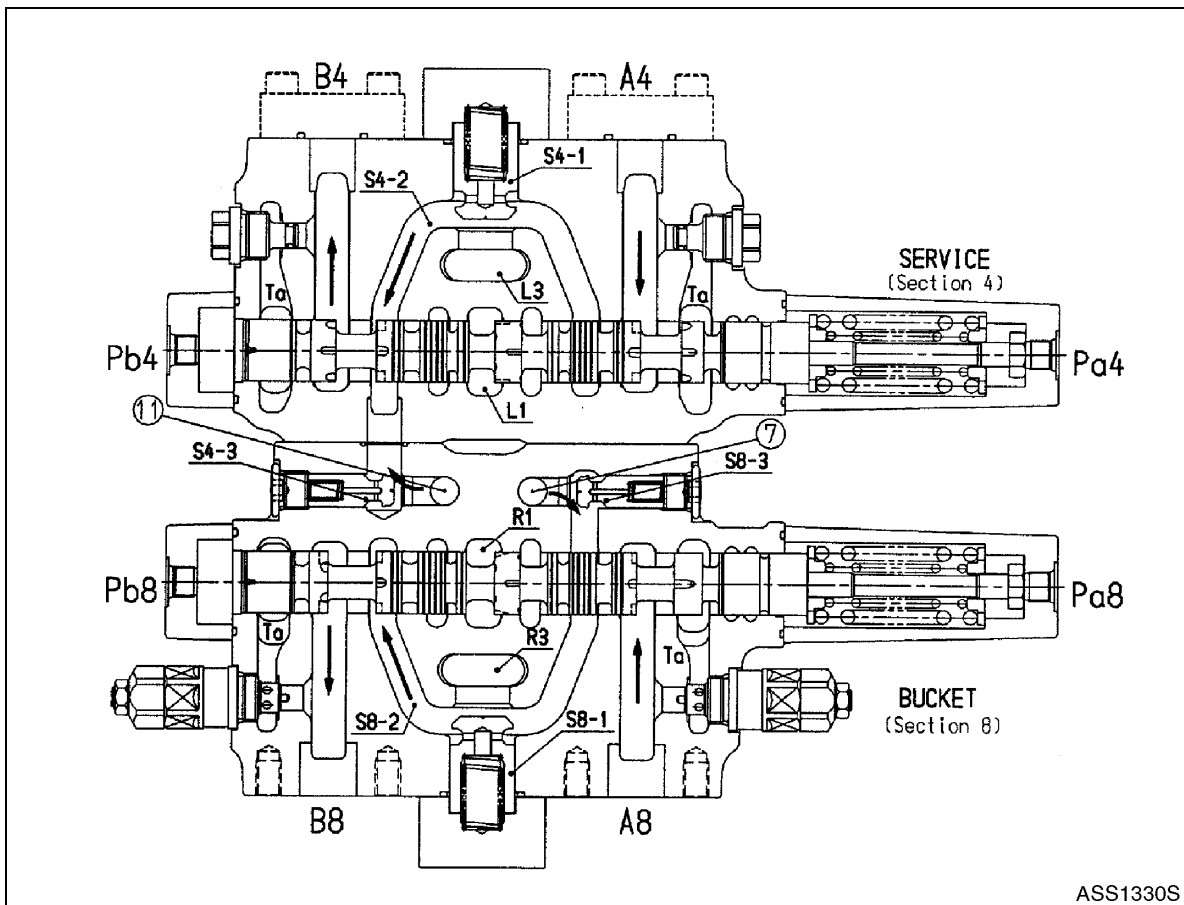

Figure 8
Spare Spool Shifting (Figure 8)
Bucket Spool Shifting (Figure 8)
1. This valve has a neutral-cut spool that is installed in lowest flow side (the upper flow side of low pressure relief valve). When spool (L (R)) is shifted by increasing pressure of port (pa10 (pa11)), neutral passage (L1 (R1)) is closed. Oil supplied to port (P1) flows through passage (7) and poppet (S8-3, Figure 8), it then joins with bucket (section 8) passage (S8-2, Figure 8). Oil supplied to port (P2) flows through passage (11) and poppet (S4-3, Figure 8), it then joins with spare (section 4) passage (S4-2, Figure 8).